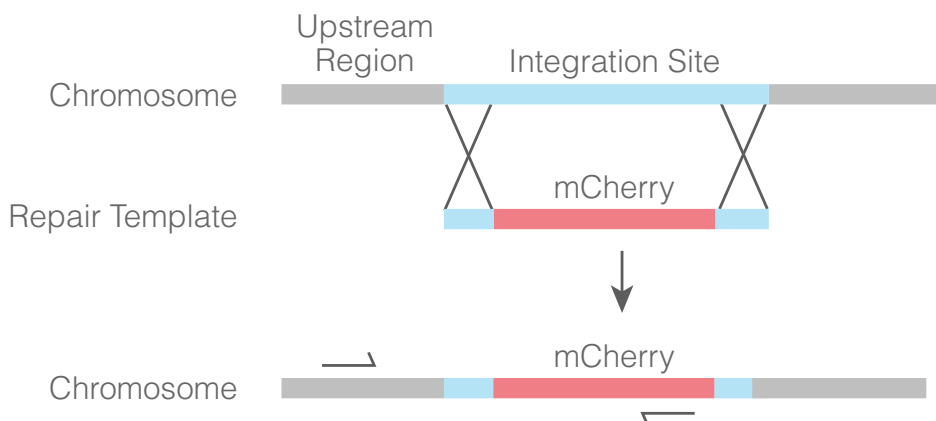

Figure 2 Schematic of mCherry cassette chromosomal knock-in and location of specific primers for colony PCR screening.
- Repair template was designed as double-stranded DNA containing the mCherry cassette flanked by homologies to the *yeeR* locus (**Figure 2**).
- Colonies were subjected to PCR using one primer specific to the upstream region of the integration site on the chromosome and one primer specific to the mCherry cassette (**Figure 2**).